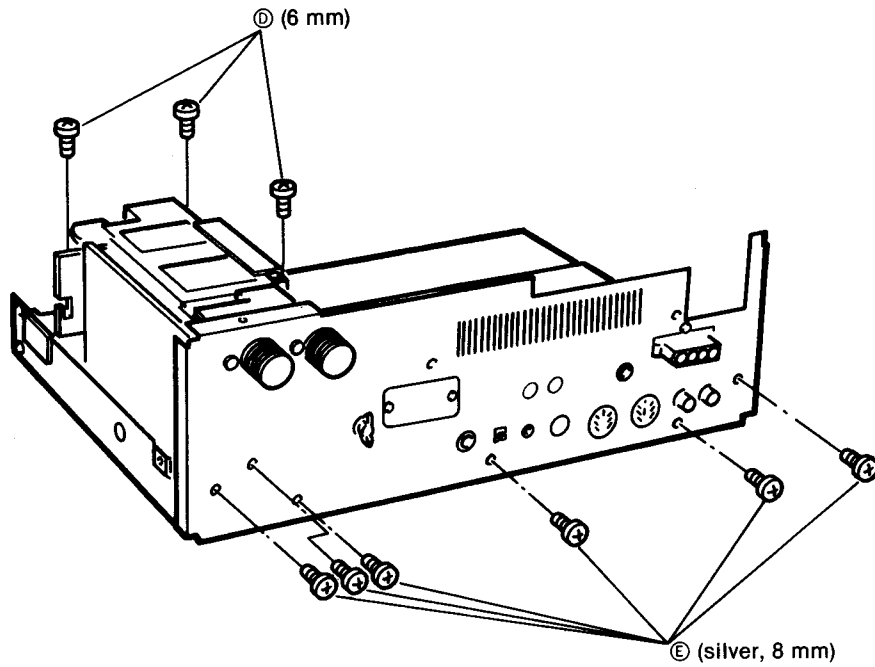

Fig. 4
1. Remove 3 screws ① and 6 screws ② as shown in Fig. 4.